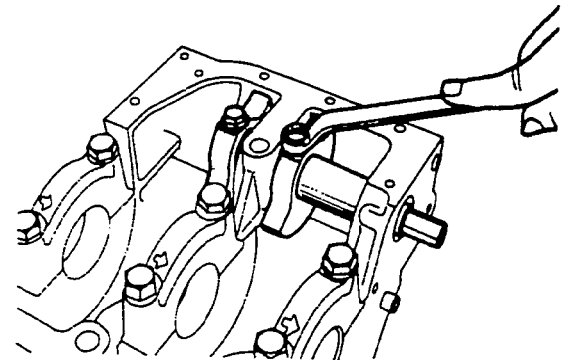

FIGURE 9-33. REMOVING BALANCE WEIGHTS
1. Loosen balance weight attaching bolt, then remove the balance weight and the balancer shaft (Figure 9-33).